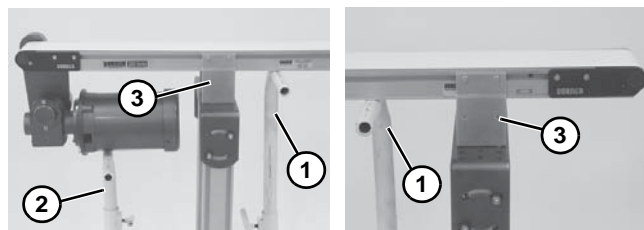

Figure 41
1. Place temporary support stands (**Figure 41, item 1**) at both ends of the conveyor. Place an additional support stand (**Figure 41, item 2**) under the drive motor, if equipped. See WARNING.
2. Remove mounting brackets (**Figure 41, item 3**) from one side of conveyor. (Reverse steps 3 & 4 of “Mounting Brackets” section beginning on page 21.) If equipped with heavy load drive package, remove brackets from side opposite drive cover (**Figure 42, item 1**).